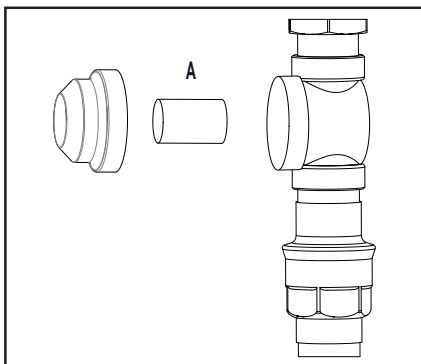

Fig. 2 110002117
A typical Floor Booster installation is shown in fig. 2
5. Remove the filter (A, Fig. 2) and place it in a descaling solution.